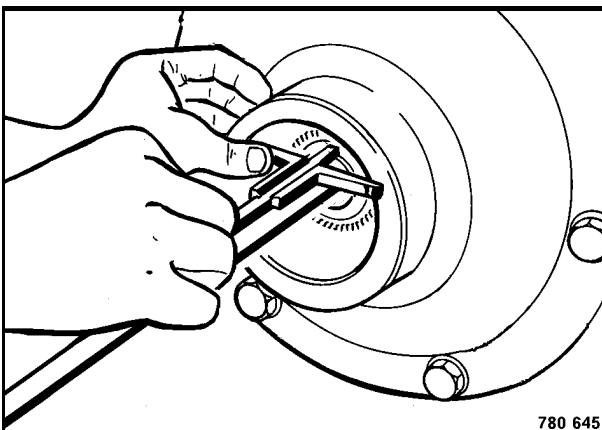

Fig. 13
18. Measure the distance between coupling and front face of bearing housing again (Fig. 13).